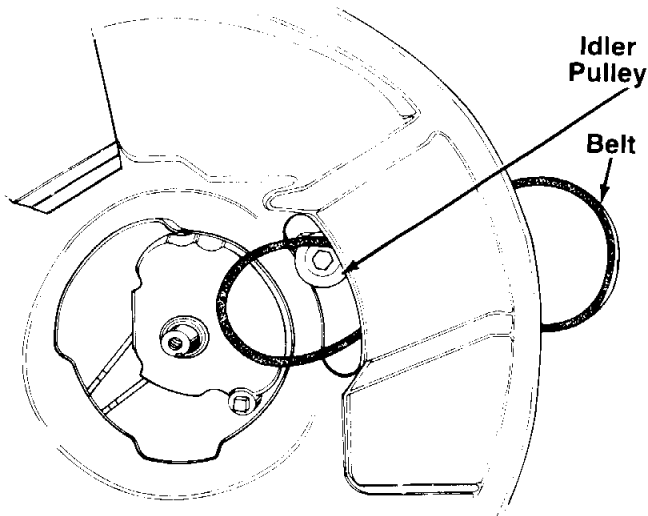

FIGURE 22.
- A. Push the idler pulley up out of the way as shown in figure 22.
- B. Slide the belt in from the rear of the deck, and place it around the transmission pulley. See figure 22.